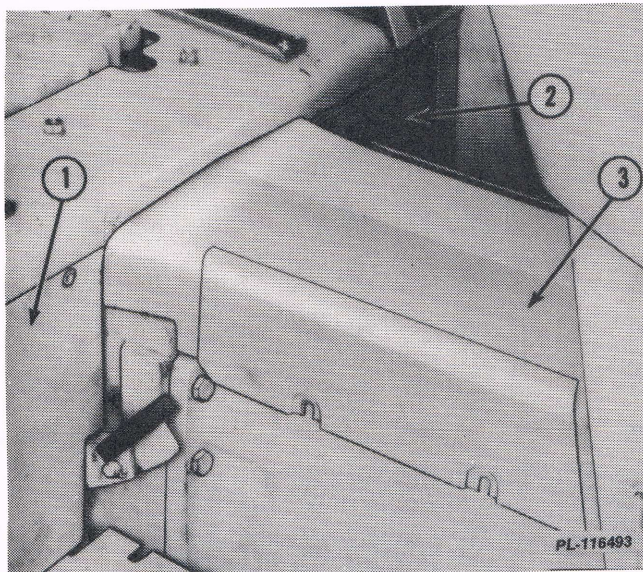

Fig. 10
2. Remove the left and right covers and the housing cover. Fig. 10.